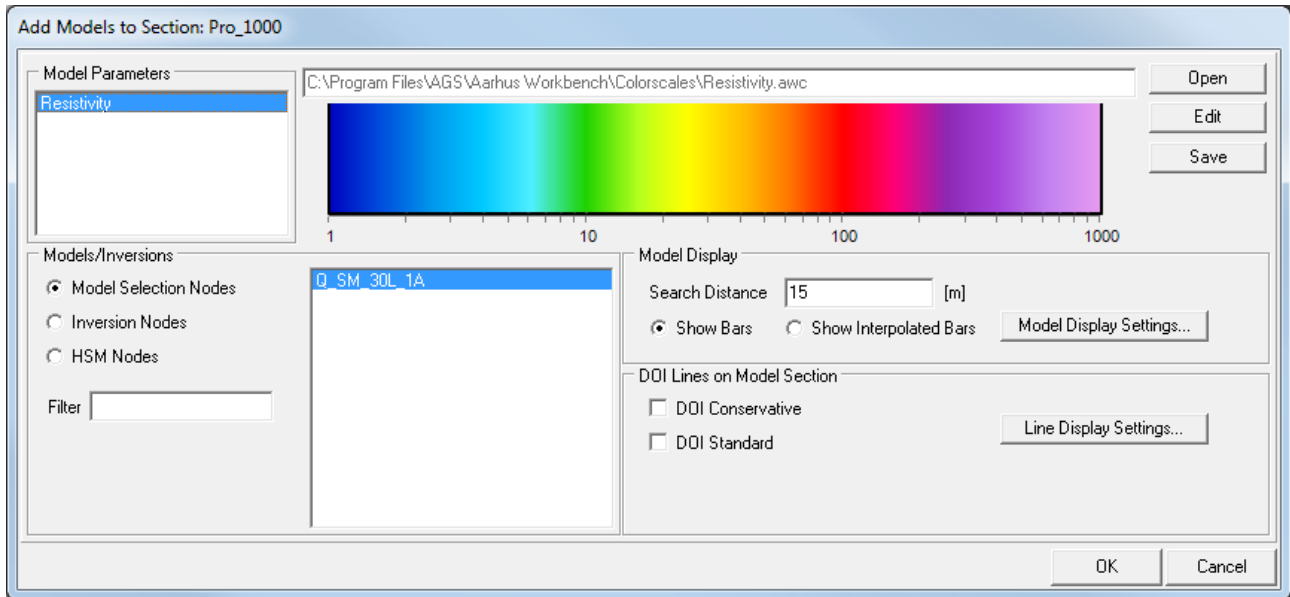

Figure 8.1: Adding Models. Use the F1 wiki help to read more about the setup.
- Here we can add models to the section (see figure 8.1). It can be done directly from inversion nodes or from the earlier made model selection. This include inversions and model selections made from entirely different data types. Use the resistivity.avc color scale and a fitting search radius. The search distance has to be big enough to cover the distance from your drawn profile